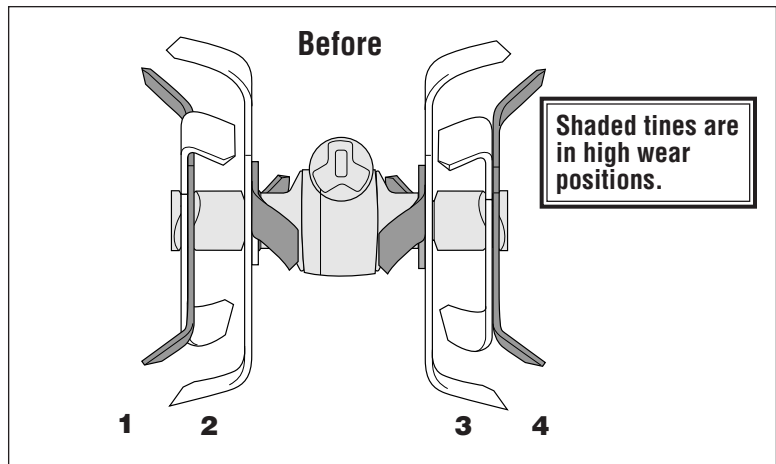
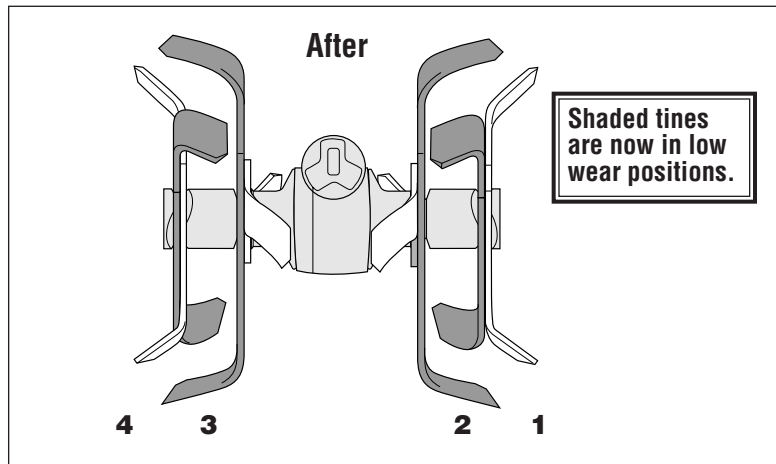

Figure 32: BEFORE rotating gangs on cast iron holders.
Figure 33: AFTER rotating gangs on cast iron holders.
Step 1: Move the entire tine gang labelled "1" in Figure 32 (from the left outer holder) to the "4" position on the right outer holder. Move the entire tine gang labelled "4" in Figure 32 (on the right outer holder) to the "1" position (on the left outer holder).
Note: The shaded tines in Figures 32 are the tines which receive the most wear.
Step 2: Move the entire tine gang labelled "2" in Figure 32 (on the left inner holder) to the "3" position (on the right inner holder). Move the entire tine gang labelled "3" in Figure 32 (on the right inner holder) to the "2" position (on the left inner holder). Now, see Figure 33 which show the positions of the tine gangs after rotation.